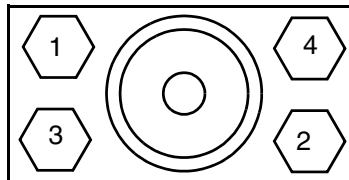

Figure 5. Bonnet Bolt Torquing Sequence
6. Tighten all bonnet bolts to 2.8 N·m (2 lb·ft) per the sequence shown in Figure 5.
6. Tighten all bonnet bolts to 2.8 N•m (2 lb•ft) per the sequence shown in Figure 5.